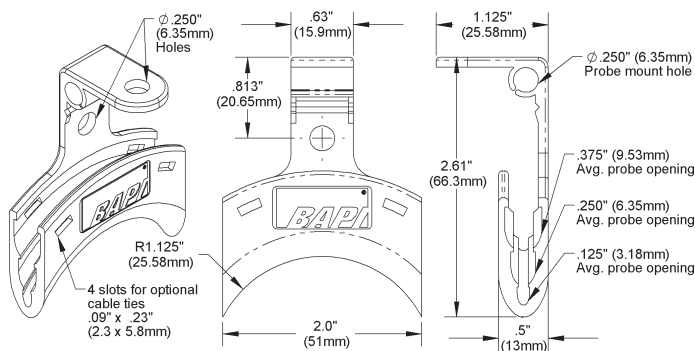

Fig 6: Flexible Probe Bracket (BA/FPB)
2. Insert the probe by unrolling the sensor into the duct carefully to avoid kinking the sensor. Serpentine the duct with the sensor at least twice across the stratified air in the duct to achieve the best average temperature reading. At the sensor reversing points, a Flexible Probe Bracket (see Fig. 6) should be used to support the sensor and to avoid kinking the sensor.